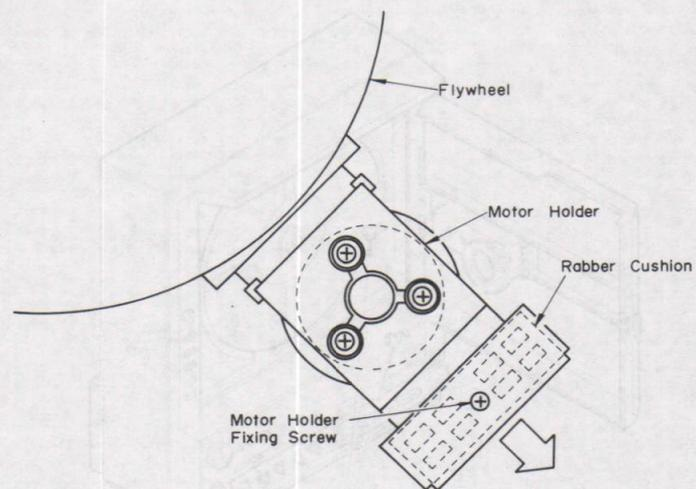

Fig. 18
- 4) Pull motor holder in a direction shown by arrow in Fig. 18.